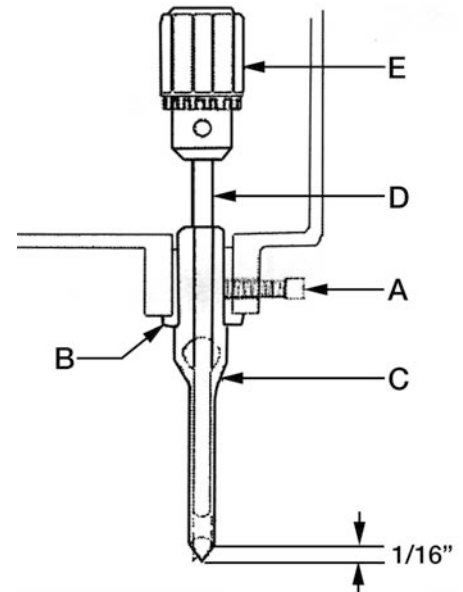

FIGURE 9
1. Loosen cap screw (A) Fig.9.
2. Make sure chisel bushing (B) is installed inside the hole in the head. Tighten cap screw (A) just enough to hold the chisel bushing in place.
3. Insert bit (C) into chisel (D) and insert chisel and bit up through the hole in head. Push the chisel up as far as possible into the head, then lower chisel approximately 1/16". This setting is only temporary, the chisel will need to be repositioned against the head once the bit is secure, tighten the cap screw (A) to hold the chisel in place.